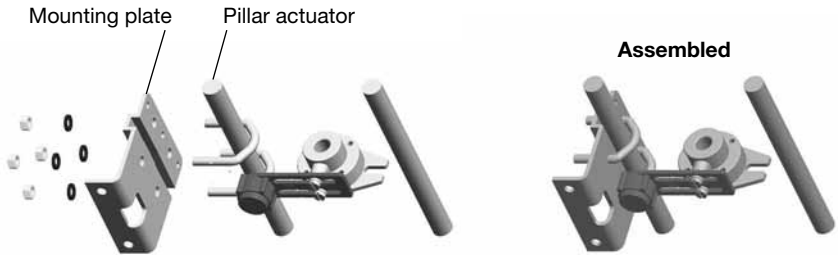
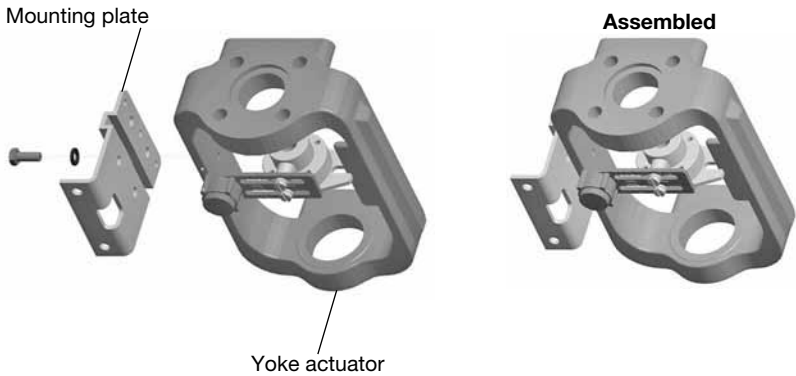

Fig. 9 Pillar actuator assembly
Fig.10 Yoke actuator assembly
5.2.4 Loosely attach the positioner mounting plate to the actuator as shown in the following pictures: for the pillar actuator (Figure 9), and for the yoke actuator (Figure 10).
Adjust the vertical position of the SP400 positioner and mounting plate assembly, by sliding it up or down on the pillar style actuators, ensuring that the positioner is roughly centred on the actuator/valve stroke (Figure 10).